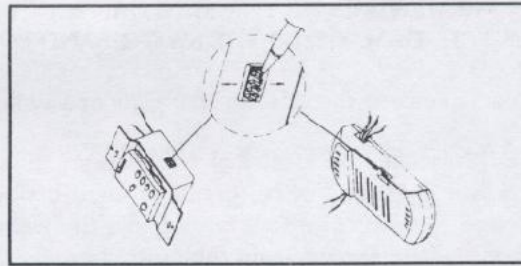

FIG. 10
**NOTE:** (Fig. 10). This remote control unit is equipped with 16 code combinations to prevent possible interference from or to other remote units. The frequency switches on your receiver and transmitter have been preset at the factory. Please recheck to make sure the switches on wall transmitter and receiver are set to the same position, any combination of settings will operate the fan as long as the wall transmitter and receiver are set to the same position.